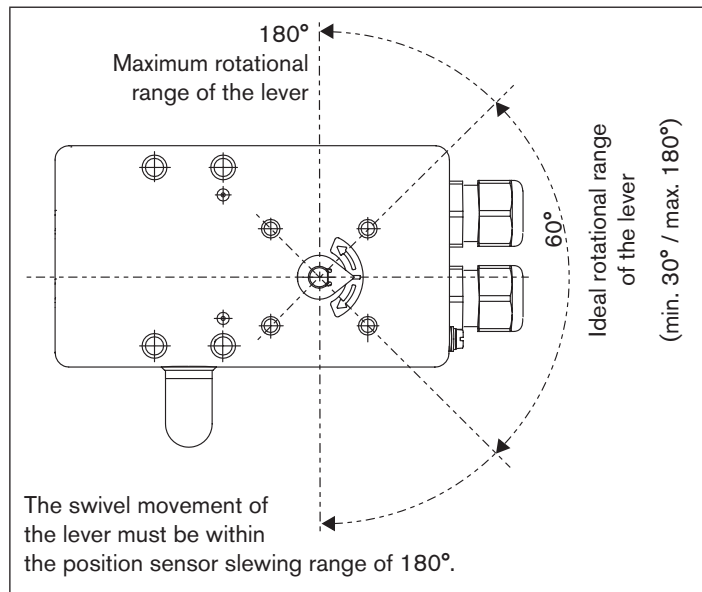

Fig. 8: Rotational range of the lever
**!** The gap between the driver pin and the shaft should be the same as the drive stroke. As a result, the lever has a swivel range of 60° (see „Fig. 8“).